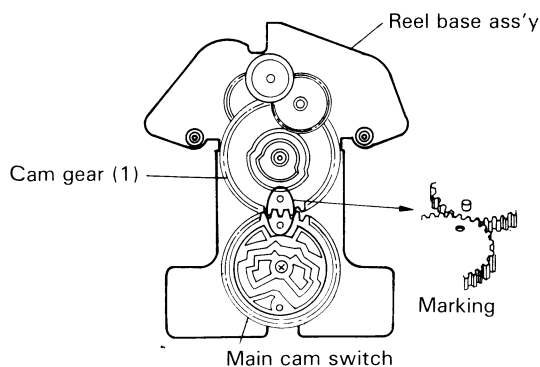

Fig. 13
1. Remove two screws ⑦ and five screws ⑧ securing the reel base.
- * Reassembling the cam gear (Fig. 13)